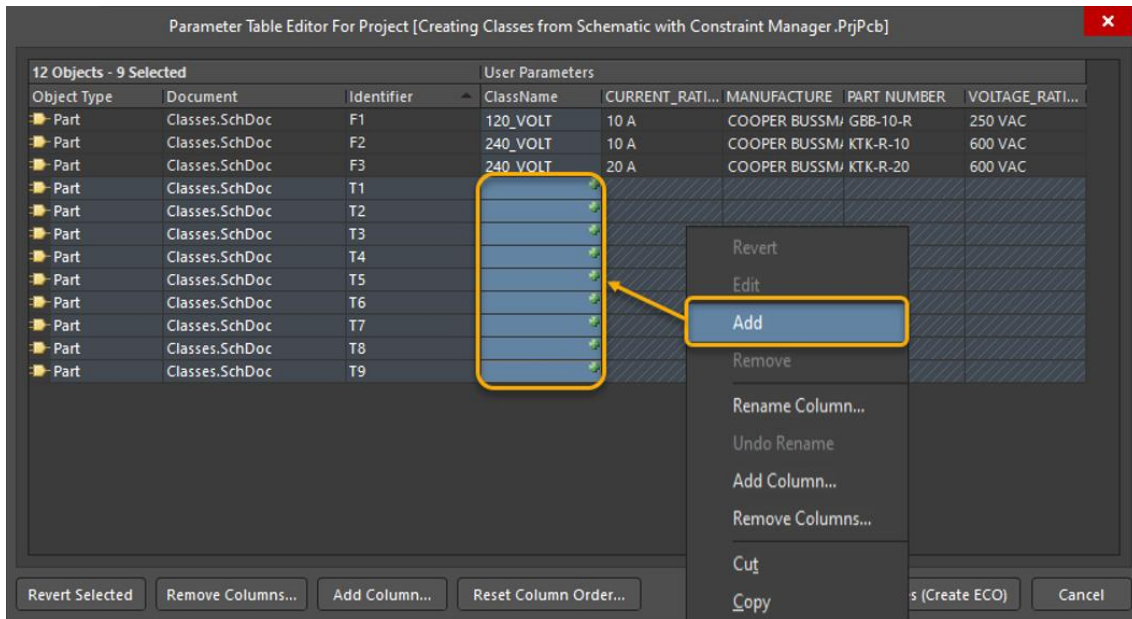

Figure 14. Parameter Table Editor for the Project
50. Select the T1 through T9 ClassName column entries, right-select and select **Add**. Refer to Figure 14. This will add Plus Symbols for editing, indicated by the arrow and inset image.